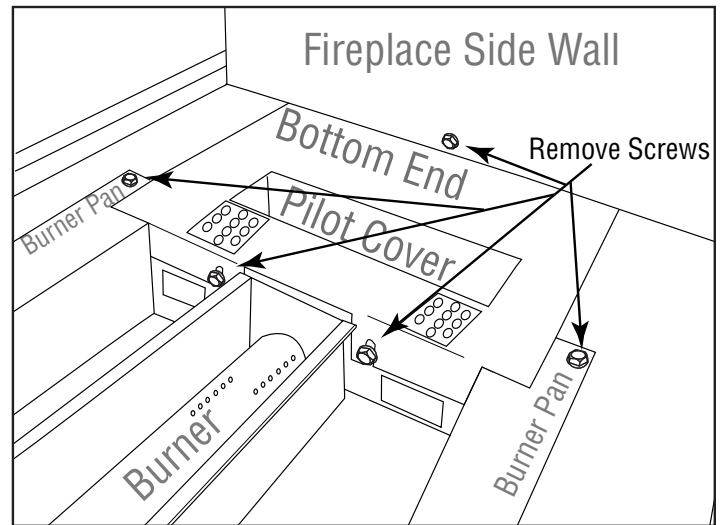

Figure 2 - Removal of burner pan screws.
RECOMMENDATION: Once the gas line is established it is recommended to remove the burner pan from the firebox until the fireplace is in the final stages and ready for the burner installation. See Burner Pan Removal in *Figure 2*.
The burner pan is secured in the fireplace with five (5) screws on each end. Two (2) screws are located on the outer edge of the burner pan and three (3) screws are located securing the bottom end (see *Figure 2*). Remove all five (5) screws on each end to lift the burner pan up. Use *Figure 22 on Page 17* as a reference to remove the bottom end.